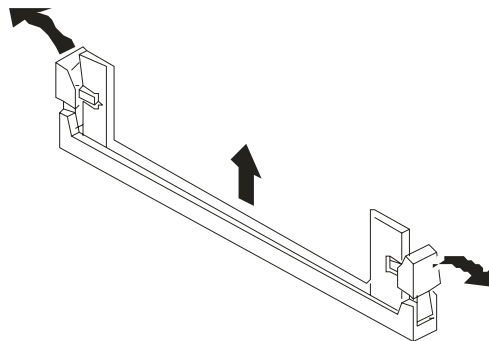

Figure 4-8. Removing the DIMM Connector Cover
5. If present, remove the DIMM connector cover from its socket (see Figure 4-8). Save the DIMM connector cover for future use.